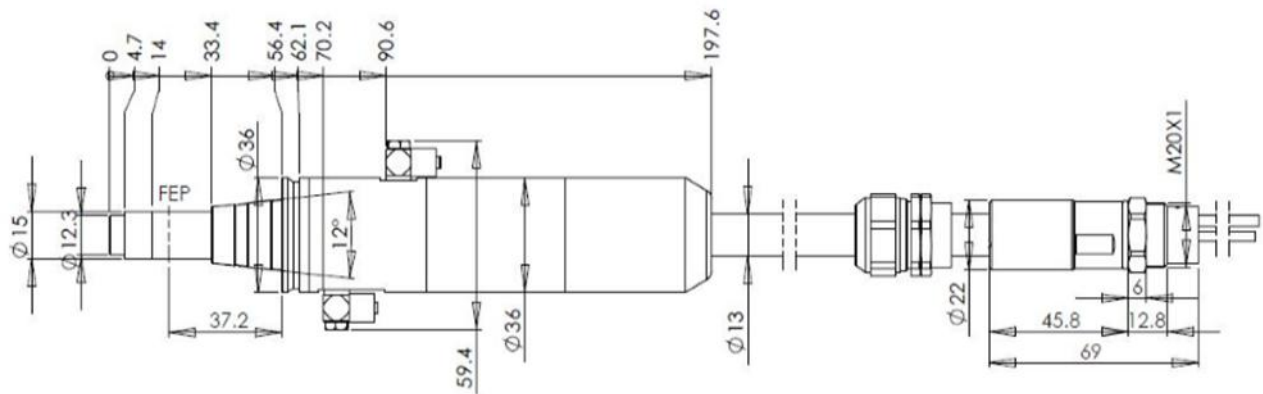

Figure 5 External dimensions of the RFL-QD fiber delivery cable connector
- b) RFL-6000/6000-ABP uses the RFL-QD model cable connector, and the external dimensions of the output optical cable connector are shown in Figure 5: